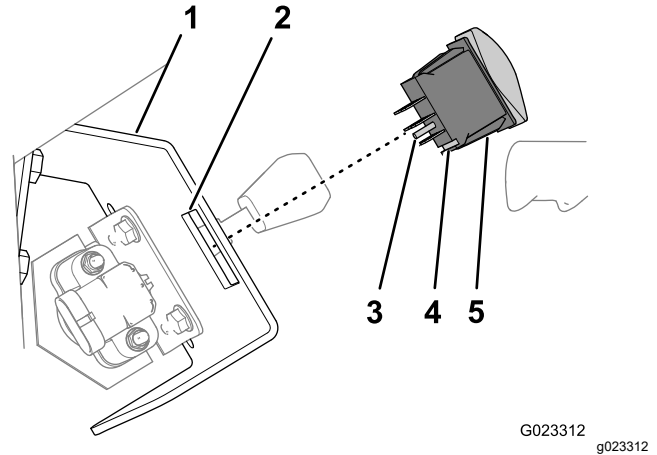

Figure 19
1. Align the mode switch to the hand-throttle bracket with the alignment pin at the connectors and the channel in the body of the switch down (Figure 19).
2. Snap the switch into the rectangular opening in the hand-throttle bracket (Figure 19).